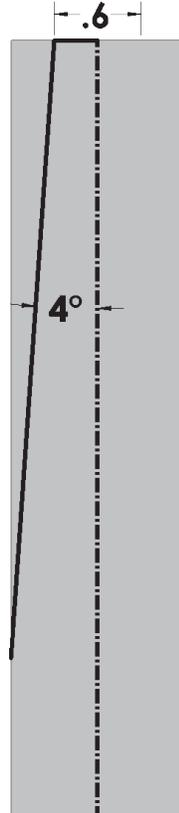

Fig. 11
Step 7. Click **Smart Dimension**  (S) on the Sketch toolbar.
Step 8. Dimension **double distance .6** and add **4°** dimension, **Fig. 11**. To double distance dimension, click centerline and then left endpoint of horizontal line, move the cursor to right of centerline and click. Key-in **.6** in the Modify box and press ENTER.